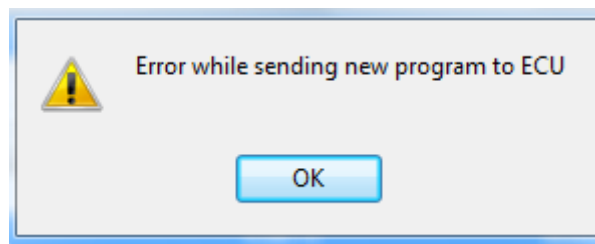

Fig. 3.10 Information about communication failure.
- In case of fault in communication during actualization, (Fig. 3.10, press „OK”) press “Auto connect”